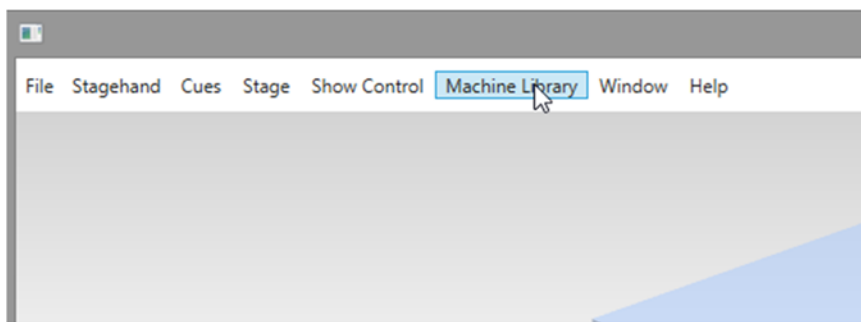

Figure 70
1. Click or touch the **Machine Library** menu (Figure 70).